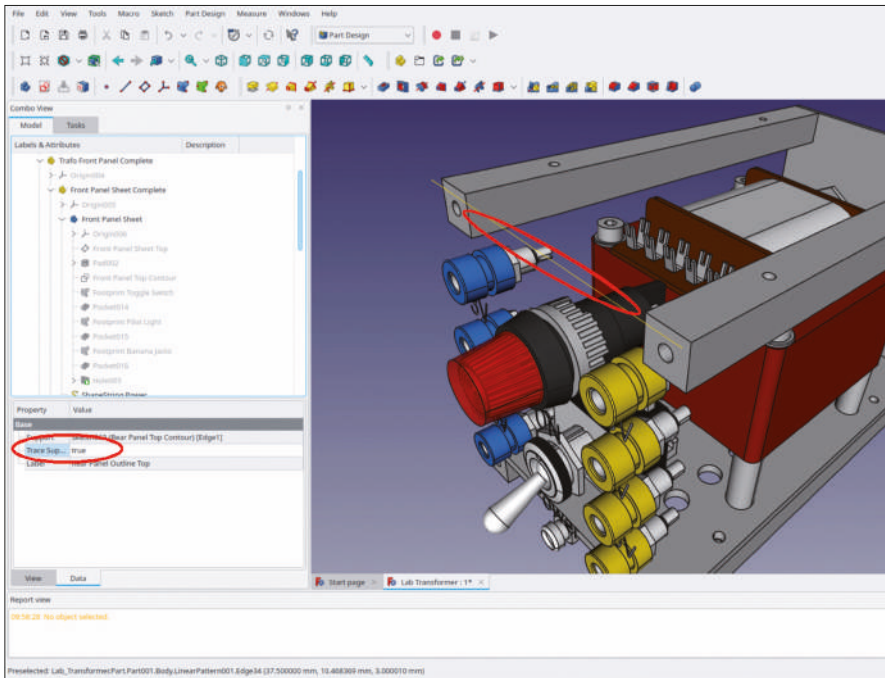

Figure 9-106
4. In 'Trafo Cover Sheet' (scroll down), rename the new shape binder to 'Front panel Outline Top'. The shape binder will jump to its correct location after setting its 'Trace Support' property to 'true', followed by a recalculation (F5 key, Figure 9-106).